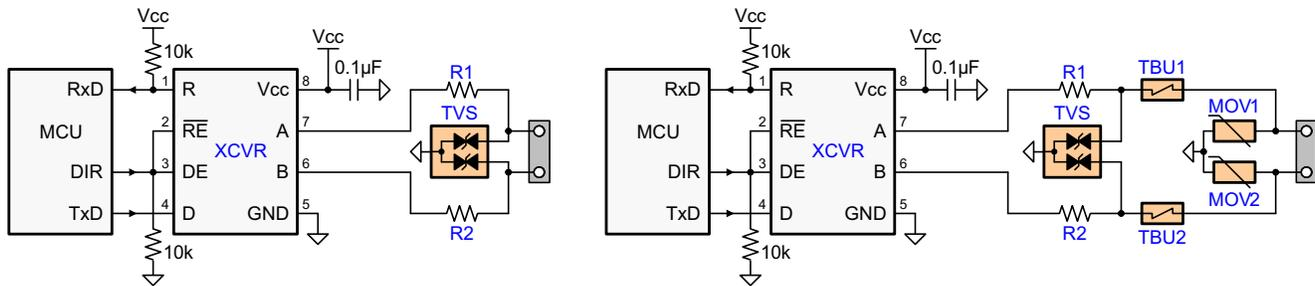

Figure 22. Transient Protections Against ESD, EFT, and Surge Transients
While the transient protection is similar to the one in Figure 22(left circuit), an additional high-voltage capacitor is used to divert transient energy from the floating RS-485 common further towards Protective Earth (PE) ground. This is necessary as noise transients on the bus are usually referred to Earth potential.